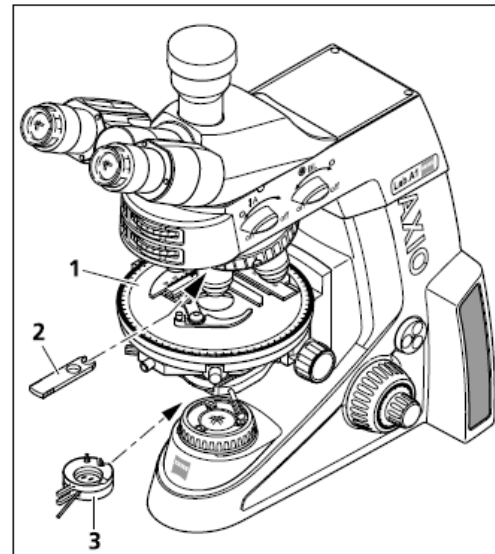

Fig. 4-12 Components for transmitted light polarization on conoscopy stand
- Set the microscope as in the transmitted light brightfield according to KÖHLER (see Section 4.1.1 (3)).
- Center rotary stage Pol (Fig. 4-12/1) (see Section 3.1.8.5) and objectives (see Section 3.1.8.6).
- Swivel polarizer (Fig. 4-12/3) into the light path and, if it is rotatable, position it at  $0^\circ$ .
- Swivel the analyzer into the beam path and adjust on the setting wheel until the field of view is dark.(Fig. 4-12/2)
- Swivel the polarizer, rigidly fixed or rotatable (Fig. 4-12/3) into the beam path. Set the rotatable polarizer to the  $0^\circ$  position.
- With the Axio Lab for polarization push the analyzer (453681-0000-000) into the 6x20 slider mount. (Fig. 4-12/2)
**(2) Equipment configuration for Axio Lab for conoscopy**
- Rotary stage Pol (Fig. 4-12/1)